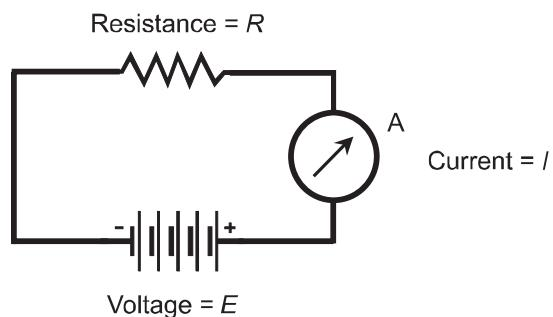

Fig. Exam-7. Illustration for Final Exam Questions 66 through 70.
66. Refer to Fig. Exam-7. Suppose $E = 18\text{ V}$ and $R = 180\Omega$. What is the meter reading?
67. Refer to Fig. Exam-7. Suppose $I = 200\text{ mA}$ and $R = 120\Omega$. What is the battery voltage?
68. Refer to Fig. Exam-7. Suppose $E=6\text{ V}$ and $I=600\mu\text{A}$. What is the value of the resistor?
69. Refer to Fig. Exam-7. Suppose $E=12\text{ V}$ and $I=2\text{ A}$. What is the power dissipated by the resistor?
70. Refer to Fig. Exam-7. Suppose $E=12\text{ V}$ and $I=2\text{ A}$. What is the energy demanded from the battery?